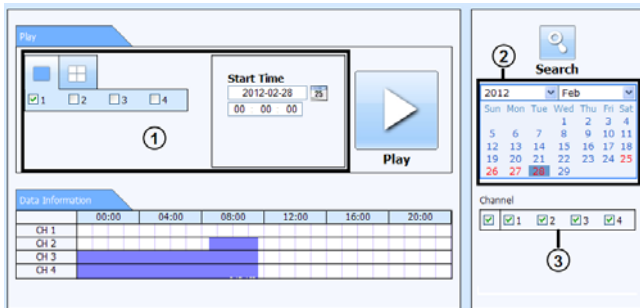

Fig 8-5 Time Search Interface
Step1: Enter into Search → Time search. Refer to Fig 8-5: